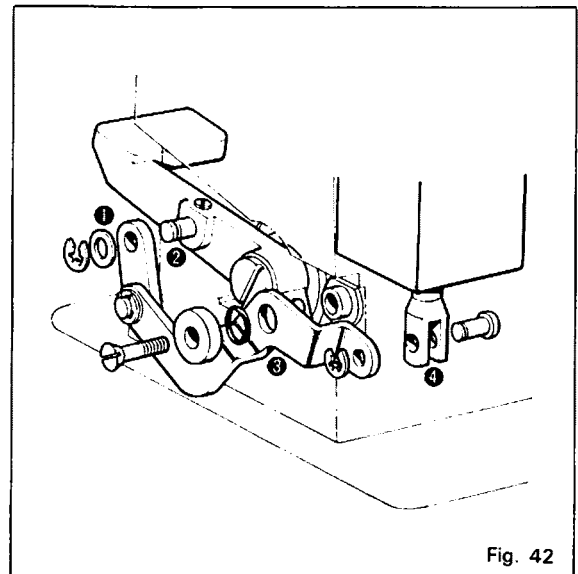

Fig. 42
- I) Fit connecting link ① over reverse handle shaft ②, and assemble lever ③ in the order shown in the figure. in
- II) Connect the lever to plunger ④. Insert the plunger into the reverse solenoid which is mounted on the base, and then install the base on the arm. (Type 400)
- III) Install the cylinder support, to which the reverse cylinder has been attached, on the arm. Assemble the lever and reverse cylinder ④ together. (Type 500) (Fig. 42)
- a. Loosen screw ⑥ and replace it as mentioned-above. (Same micro switch is used both for inching and thread trimming).
- b. Loosen nut ⑦ and bolt ⑧.
Press down the treadle pedal by your heel after needle down position, then fasten bolt ⑧ slowly pressing it by your finger as per Fig. 42, and sewing machine moves about 120°, and gets needle up position.